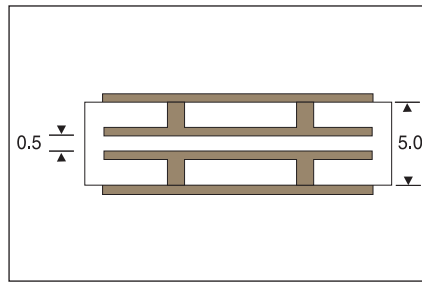
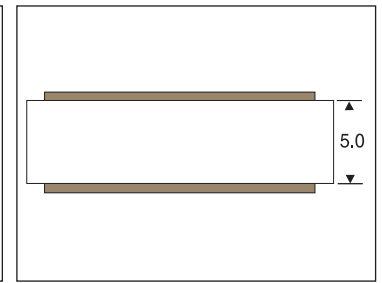

Fig. 1. Construction of Buried Electrodes
Fig. 2. Conventional Single Layer Capacitor
- ◆ Presidio's patented thick film technology buries electrodes into the ceramic body (Fig. 1) allowing a 10:1 advantage over a conventional construction (Fig. 2). It offers the designer: (a) more bandwidth through increased device capacitance, (b) more stable capacitance over temperature and (c) more capacitance in smaller case sizes for increased board density.